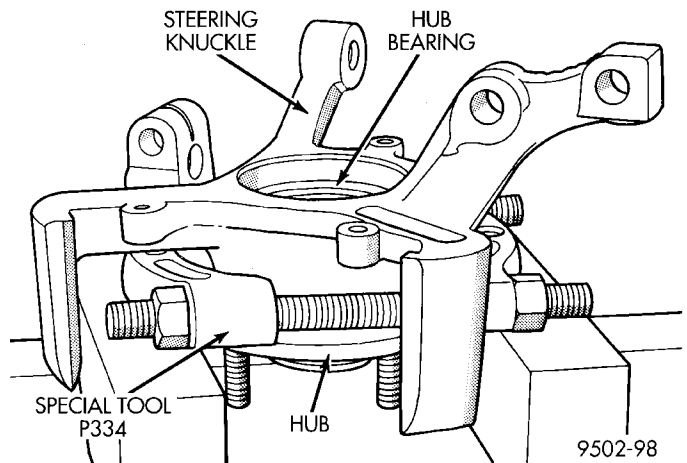

Fig. 45 Supporting Steering Knuckle For Hub Removal
(2) Install Bearing Splitter, Special Tool P334 on the steering knuckle and hub/bearing assembly as shown in (Fig. 45) to support steering knuckle when pressing out hub.
(3) Position steering knuckle and hub and bearing in an arbor press supported by Bearing Splitter, Special Tool P334 as shown in (Fig. 45).